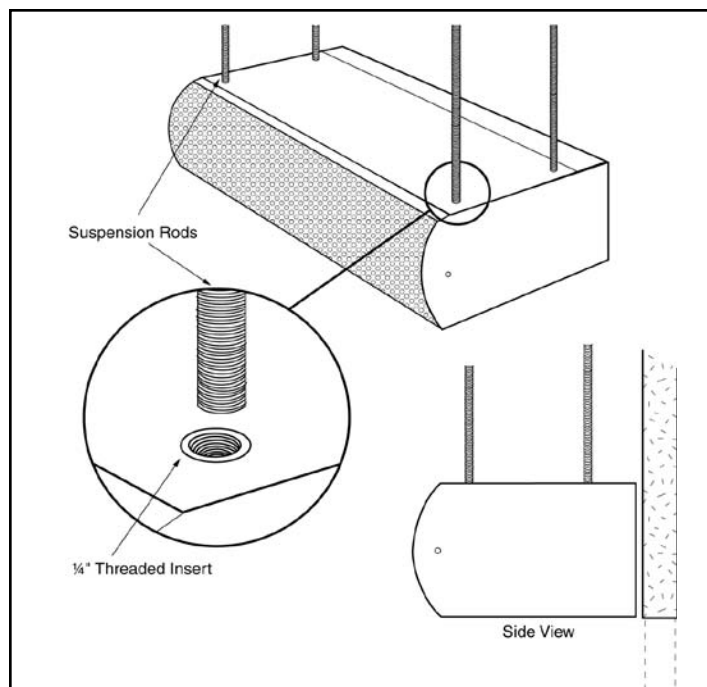

FIGURE 6 - Suspended Mounting
- B. Four (4) factory installed $\frac{1}{4}$ " threaded inserts are located on the top of the air door for top suspension mounting; on air doors comprised of modules use the outer threaded inserts. To eliminate the slight deflection of longer air doors, the inner threaded inserts may also be used. **See Figure 6.**